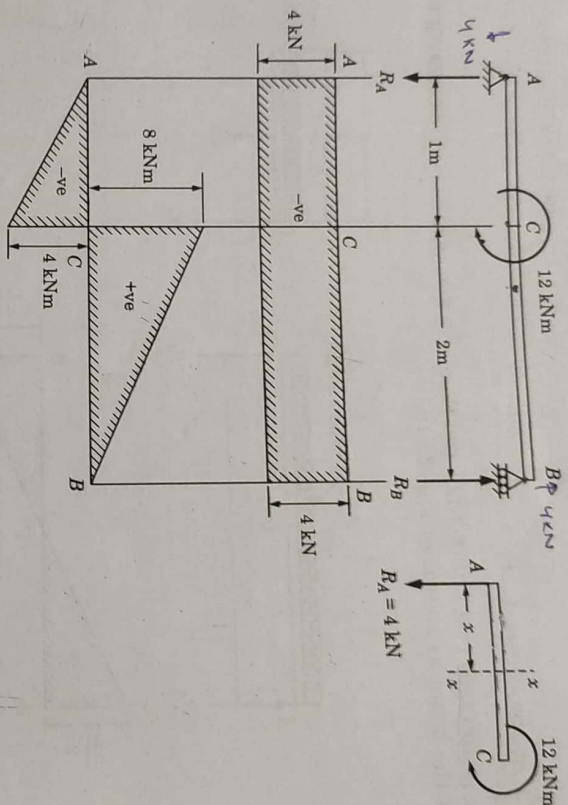

Fig. 25.19
**Example 25.5** A simply supported beam  $AB$  of length  $3\text{ m}$  is hinged at  $A$  and roller supported at  $B$ . It is subjected to clockwise couple of  $12\text{ kNm}$  at a distance of  $1\text{ m}$  from the left end  $A$  (Fig. 25.19). Draw of S.F. and B.M. diagram.
It remains constant between  $A$  and  $B$ . S.F. diagram is shown in Fig. 25.19.
There is a sudden change in B.M. at C due to couple acting at C (Fig. 25.19).